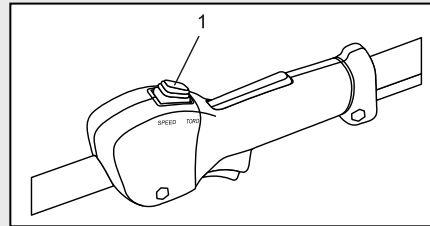

Fig. 9
The speed / torque switch (1) allows you to select either the "torque" or "speed" mode for the motor (Fig. 9). Set the speed control switch at "torque" for most applications. This setting will provide the torque required for most trimming activities. It will also conserve the Power Cell capacity resulting in longer run times between charges. Use the "speed" setting for heavier cutting and when using the guard blade for cutting off excess exposed line.